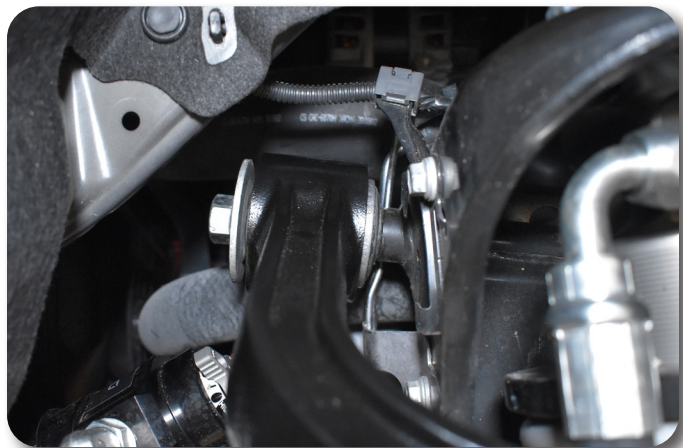

Figure 15A
19. Install new control arm with factory hardware and new washers. Snug, but do not torque bolt. Figure 15A, 15B